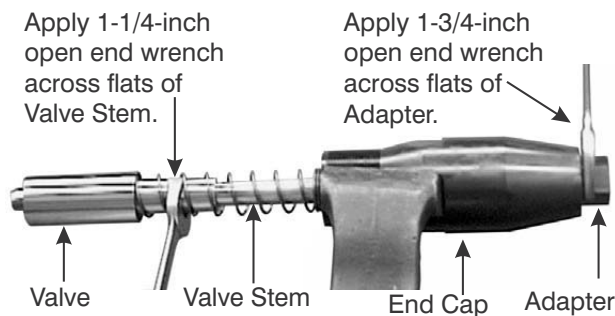

Figure 8-11. Thread Valve Stem from Adapter.
3. Use a 1-3/4-inch open-end wrench to hold the Adapter (11) in place, as shown in Figure 8-11.
4. With a 1-1/4-inch open-end wrench across the flats of the Valve Stem (5), thread the Valve Stem (5) from the Adapter (11) as shown in Figure 8-11.